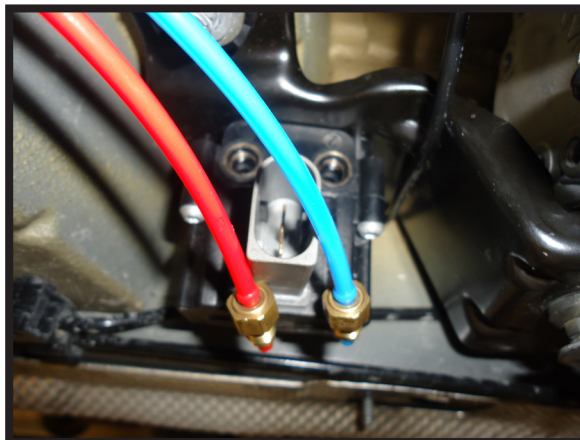

FIGURE 10-6
5. LOCATE AND REMOVE THE TWO (2) AIR LINES LEADING TO THE VALVE BLOCK. (FIGURE 10-6)